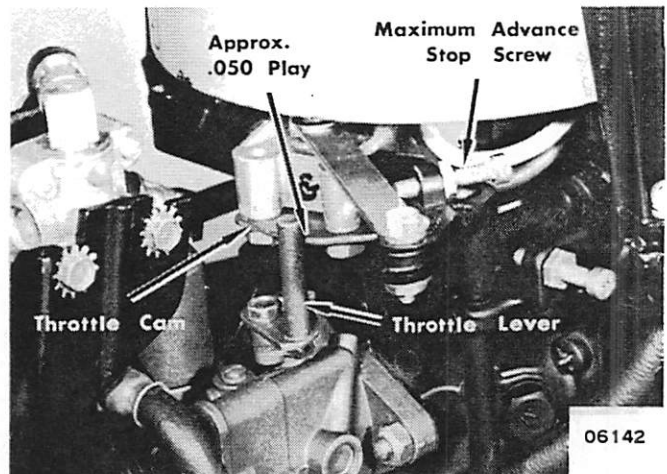

Figure 5. Maximum Spark Advance - Merc 110-75
7. Turn twist grip to open throttle to maximum spark advance point. (Figure 5)
10. Adjust throttle lever to allow approximately .050" play between throttle lever and throttle cam. (Figure 5)